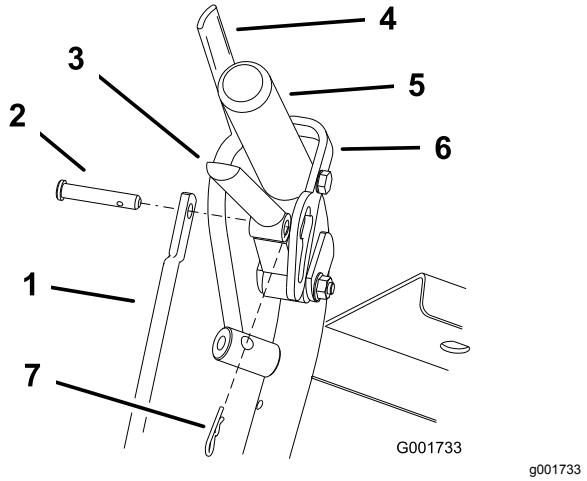
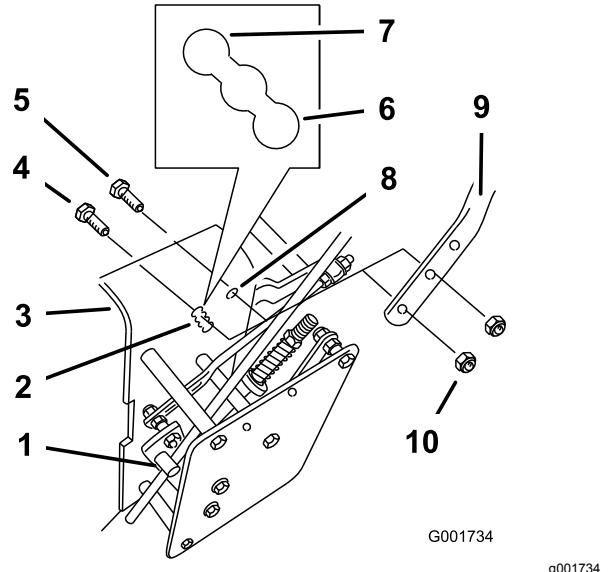

Figure 18
Figure 19
1. Remove the hairpin coppers and clevis pins from the drive levers and neutral locks (Figure 18).
2. Loosen the upper flange bolts (3/8 x 1-1/4 inches) and flange nut securing handle to rear frame (Figure 19).
3. Remove the lower flange bolts (3/8 x 1 inch) and flange nuts securing handle to rear frame (Figure 19).
5. Adjust the control rod length by rotating the control rod in the rod fitting (Figure 18 and Figure 19).
6. Install hairpin cotter between drive levers and neutral locks and into clevis pins (Figure 18).